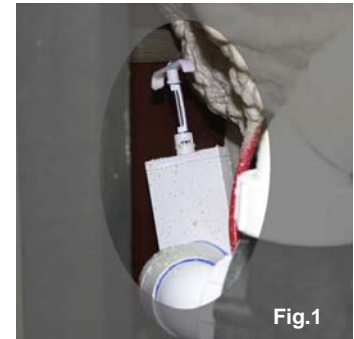

Fig.1
3. Ensure the gate valves are fully open. Pull the "T" handle on the gate valve (located near the jet pump, Fig.1) all the way up. When opened, there will be approximately 2" (5 cm) of metal rod visible. Each pump is supplied with one valve.